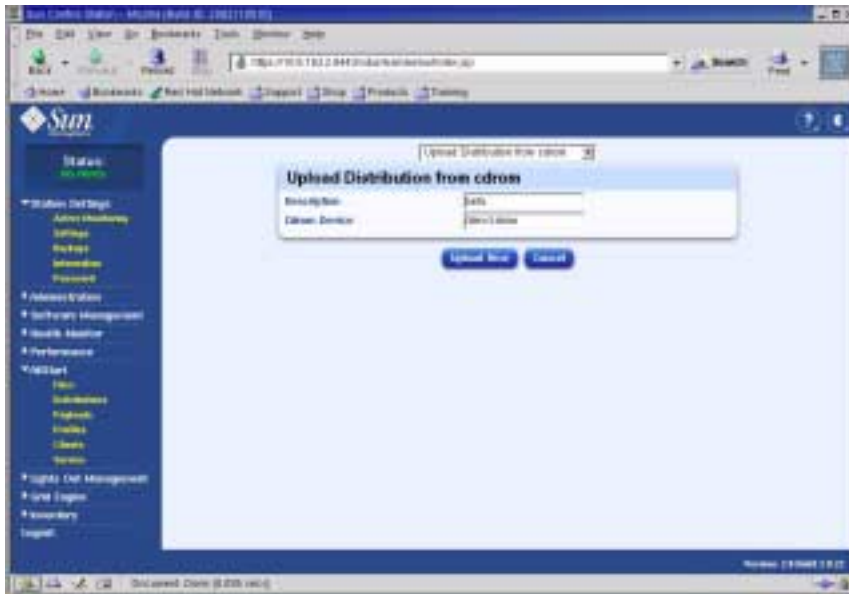

FIGURE 2-4 Upload Distribution From CDROM Window
3. **In the Upload Distribution From CDROM window, fill in the fields to create a unique description for the distribution. See FIGURE 2-4 for an example.**